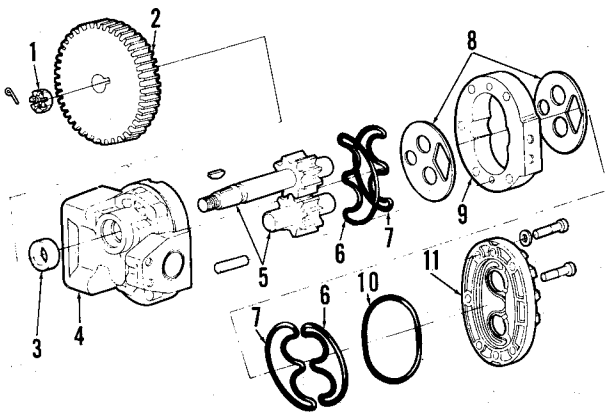

Fig. 214—Exploded view of hydraulic pump used on Model TW-30.
238. TW-30. Refer to Fig. 214 and remove cotter pin and nut securing pump drive gear; remove drive gear (5) using a suitable puller. Remove woodruff key from shaft. Remove five bolt and lock washers holding pump together while noting location of shorter bolt. Remove rear cover (11) by lightly tapping pump shaft with a rubber mallet. After removing rear cover, lightly tap gear shafts with mallet to remove front cover (4). Keep components in order as removed. Minor burrs and score marks can be removed using "O" grade emery paper and kerosene. Check gear track wear in pump body. If excessively worn, replace complete pump. Maximum allowable runout across gear face-to-tooth edge should not